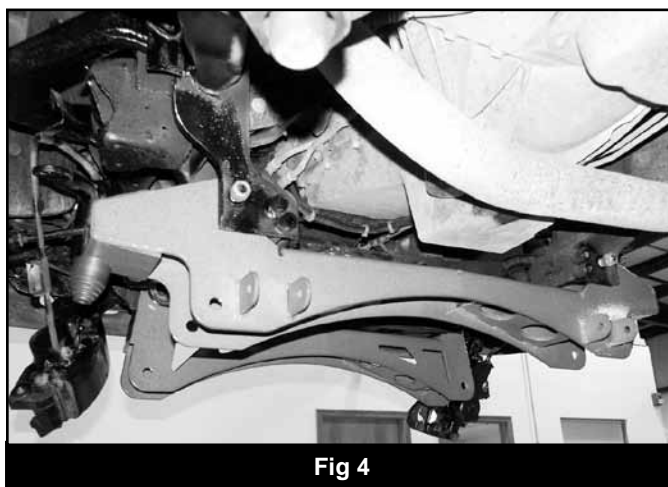

Fig 4
28. Install the new rear crossmember (01199) in the lower rear OE control arm pockets using the original control arm pivot bolts, nuts and washers (Fig 4). The bolt heads should be to the front of the vehicle. Leave mounting bolts loose.